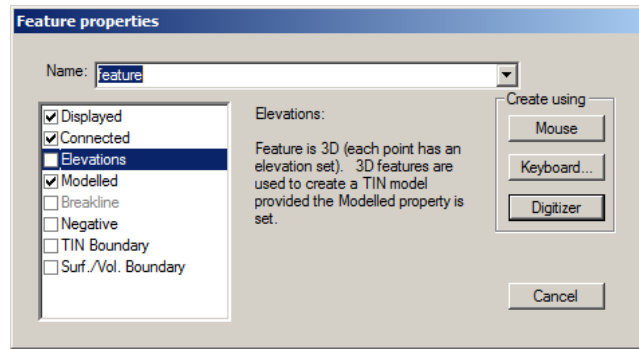

Figure 2: *OG.ter*
2. Choose menu Edit | New Feature. Set the feature properties as shown in Figure 2 below and click on *Mouse*.